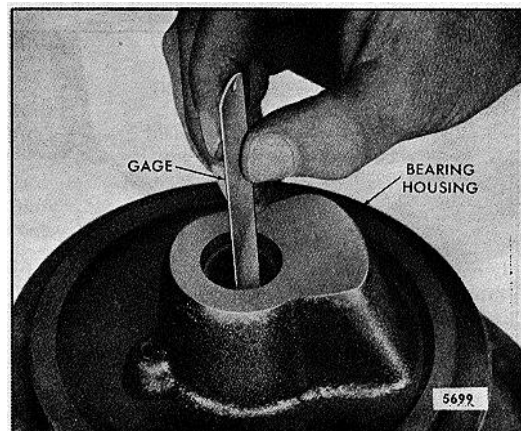

FIG. 12 - Checking Turbine Seal Ring Gap in Bearing Housing
- c. Install the turbine seal ring in its bore, inspect visually for full circle contact, and measure the ring gap with a feeler gage (Fig. 12). The gap range is .002 " to .009 ". Replace if the ring fit is faulty.